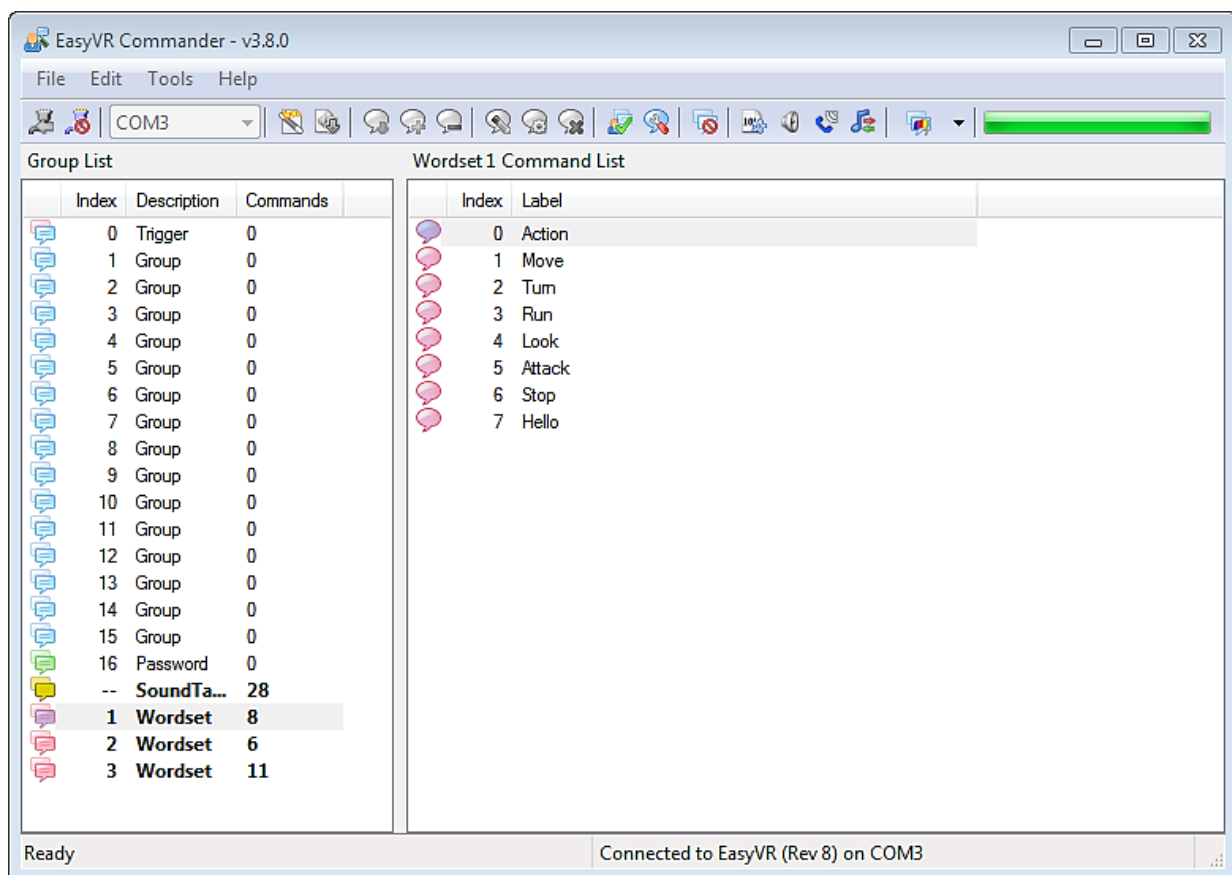
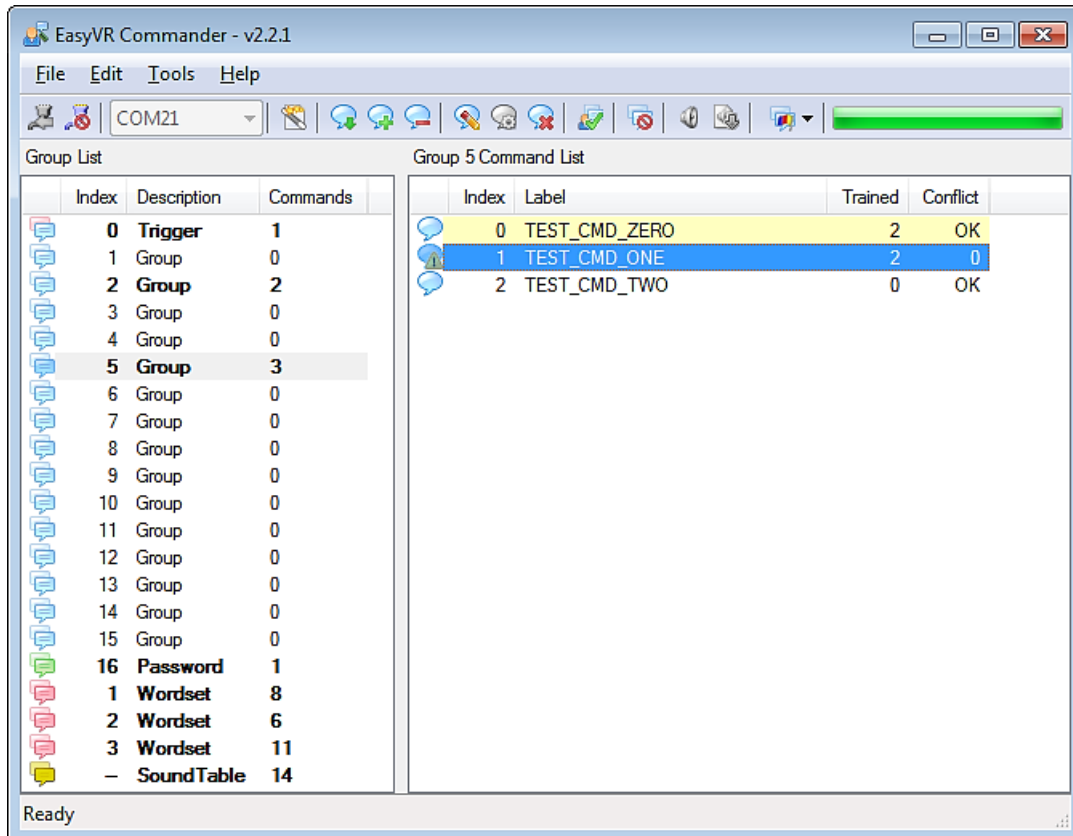

Figure 1 – Main application window
Figure 4 – Conflicting commands
There are five kinds of commands in the software (see Figure 1 and Figure 4):
- **Password** - a special group for "vocal passwords" (up to five), using Speaker Verification (SV) technology
- **Wordset** - built-in set of SI commands (for instance in Figure 1 above, the Wordset 1 is selected)
The software will also alert if a command is too similar to an existing one by specifying the index of the conflicting command in the "Conflict" column. For example, in the following Figure 4 the command "TEST_CMD_ONE" sounds too similar to "TEST_CMD_ZERO" (i.e. they have been trained with a similar pronunciation).